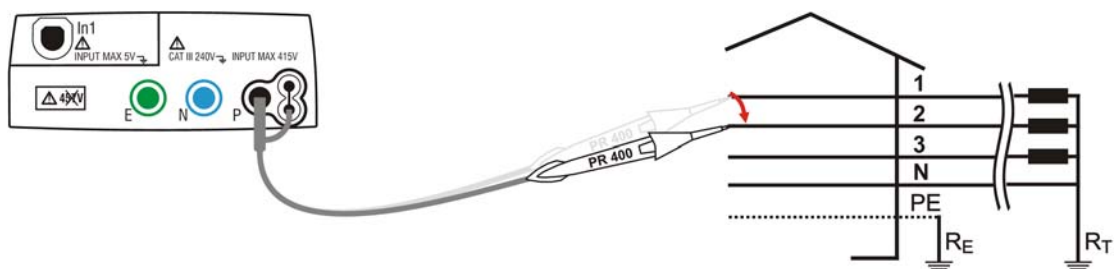

Fig. 26: Instrument connection for measuring the phase sequence with one lead, phase 2 connection
8. Move the black test lead to the second voltage of the sequence tested as in Fig. 26 and Fig. 27.